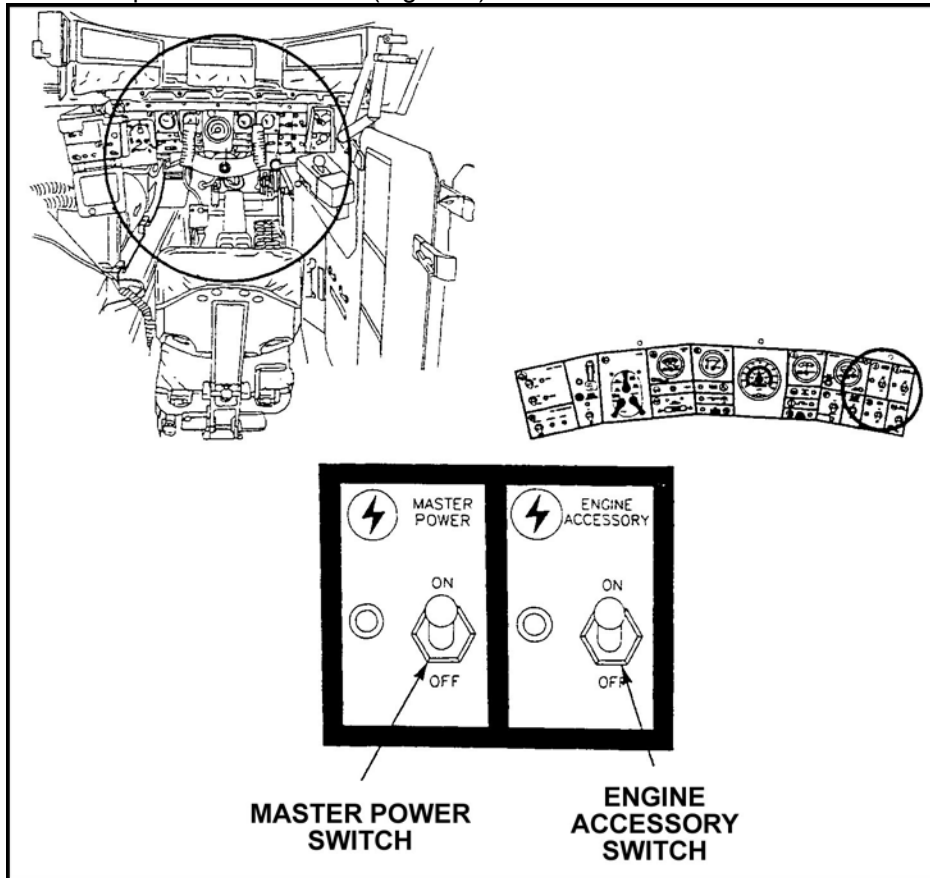

Figure 3. Master power and engine accessory switch.
c. Move master power switch to ON (Figure 3).